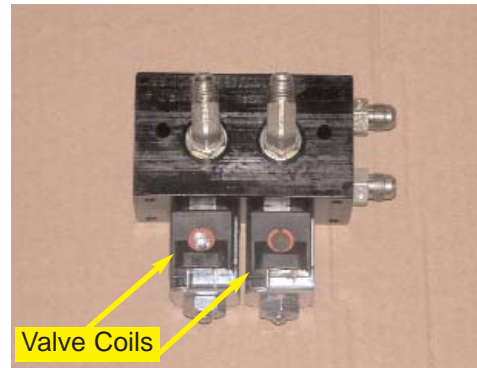

Figure 1b. Automated steering block with wiring and speed control removed.
c. Remove both valve coils from the cartridge valves on the automated steering block by removing the two top retainer nuts. (Figure 1b. and 1c.)